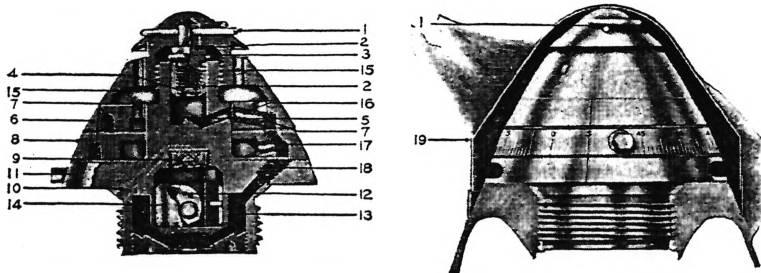

FIG. 14.—45-second combination fuze, M1907M
- (3) 45-second combination fuze, M1907M (fig. 14).
(2) The fuze is always assembled to the shrapnel for shipment. It is protected from moisture by a waterproof cover which is removed and thrown away when the fuze is set for time of flight. Before setting the fuze it is necessary to remove the safety wire at the top of the fuze. This safety wire is incorporated for safety in transportation, due to the low arming resistance of the concussion plunger.
(3) This fuze does not have a detonating element, as it is designed to ignite the base charge of black powder in the shrapnel. If the time element of the fuze fails to function, or the setting is too long, the percussion element will cause the shrapnel to function upon impact, the term "combination" thus being derived from this double-action feature. Figure 14 shows a view of the fuze with the waterproof cover (19) in place and the fuze set for 0 time of burning. It also shows a sectional view of the fuze set at 0, with the names of the principal parts.
*b. Canister action.*—(1) When the setting is at 04 for canister effect the action is as follows: When the gun is fired the concussion